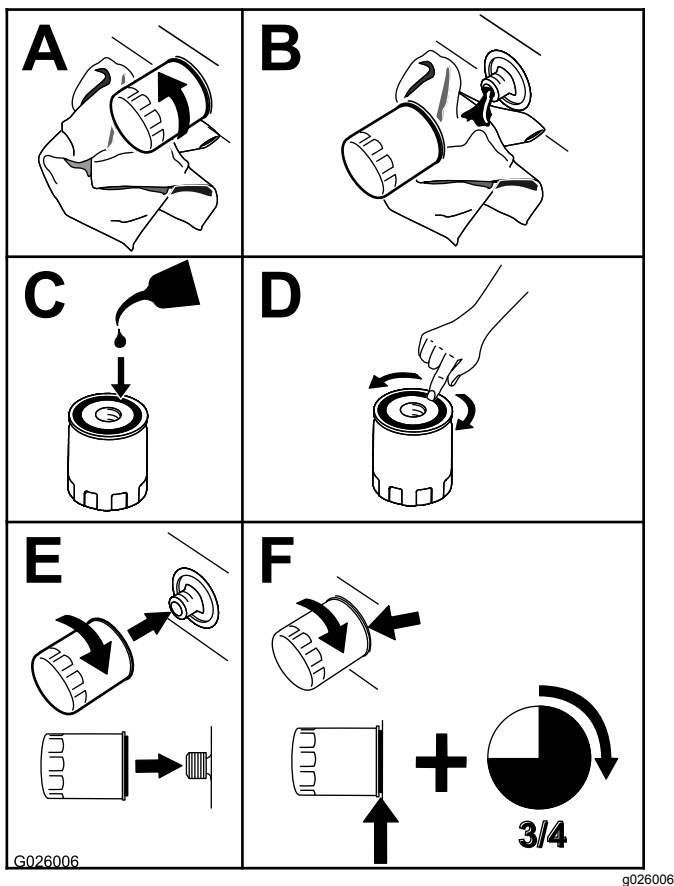

Figure 33
3. Change the engine-oil filter (Figure 33).